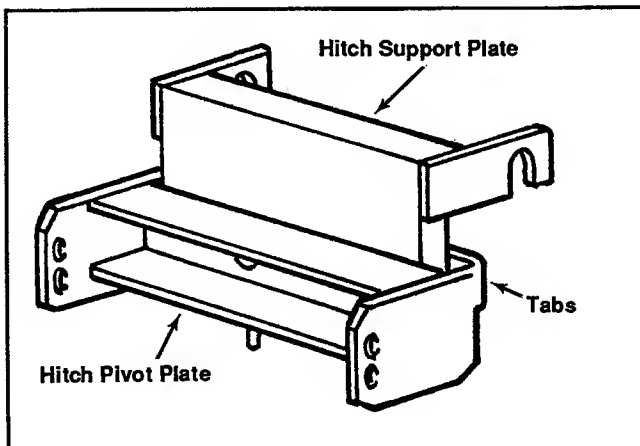

Figure 7
1. Slide the hitch support plate through the tabs of the hitch pivot plate (figure 7).
2. Fasten the two hitch plates together using capscrew (C) and flat washer (D) on outside of hitch pivot plate; spacer (E) between the two plates; flat washer (D) and flange locknut (F) on inside of hitch support plate.